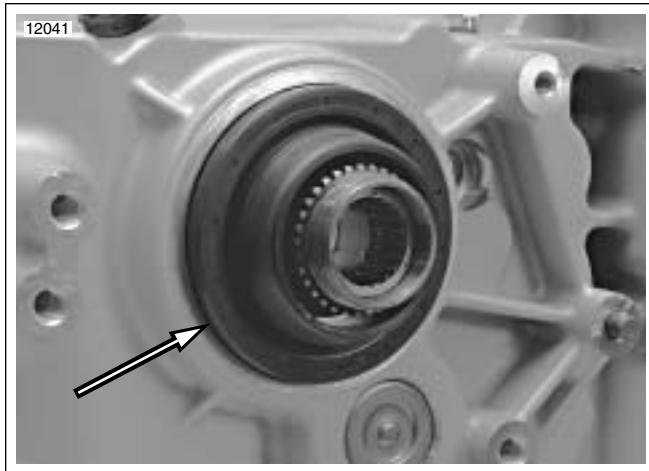

Figure 6-78. Install Main Drive Gear Seal (Typical)
3. See Figure 6-78. Place seal over pilot and position seal squarely in end of crankcase bore.